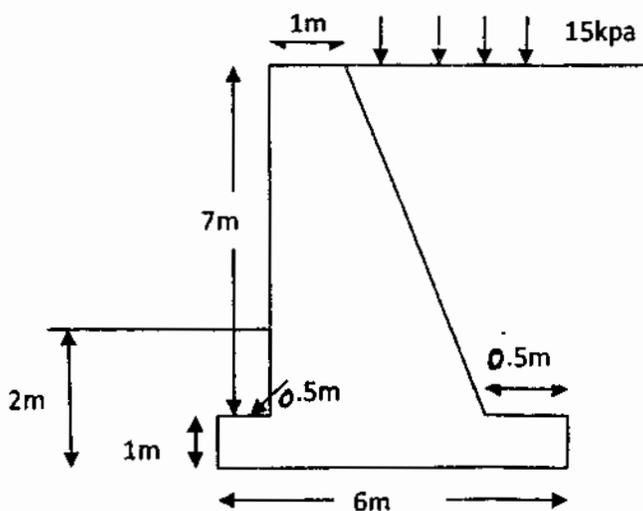

Fig. 1
5. Check the stability of a concrete retaining wall shown in fig. 1. The properties of backfill are $\gamma = 16 \text{ kN/m}^3$, $\phi = 33^\circ$, $\tan \delta = 0.48$, $\gamma_c = 25 \text{ kN/m}^3$. The allowable soil pressure for the foundation soil is 380 kPa.
IV. Estimate the quantities and prepare the abstract of estimate of the following item of a building shown in Fig. 1. (Assume prevailing market rates)